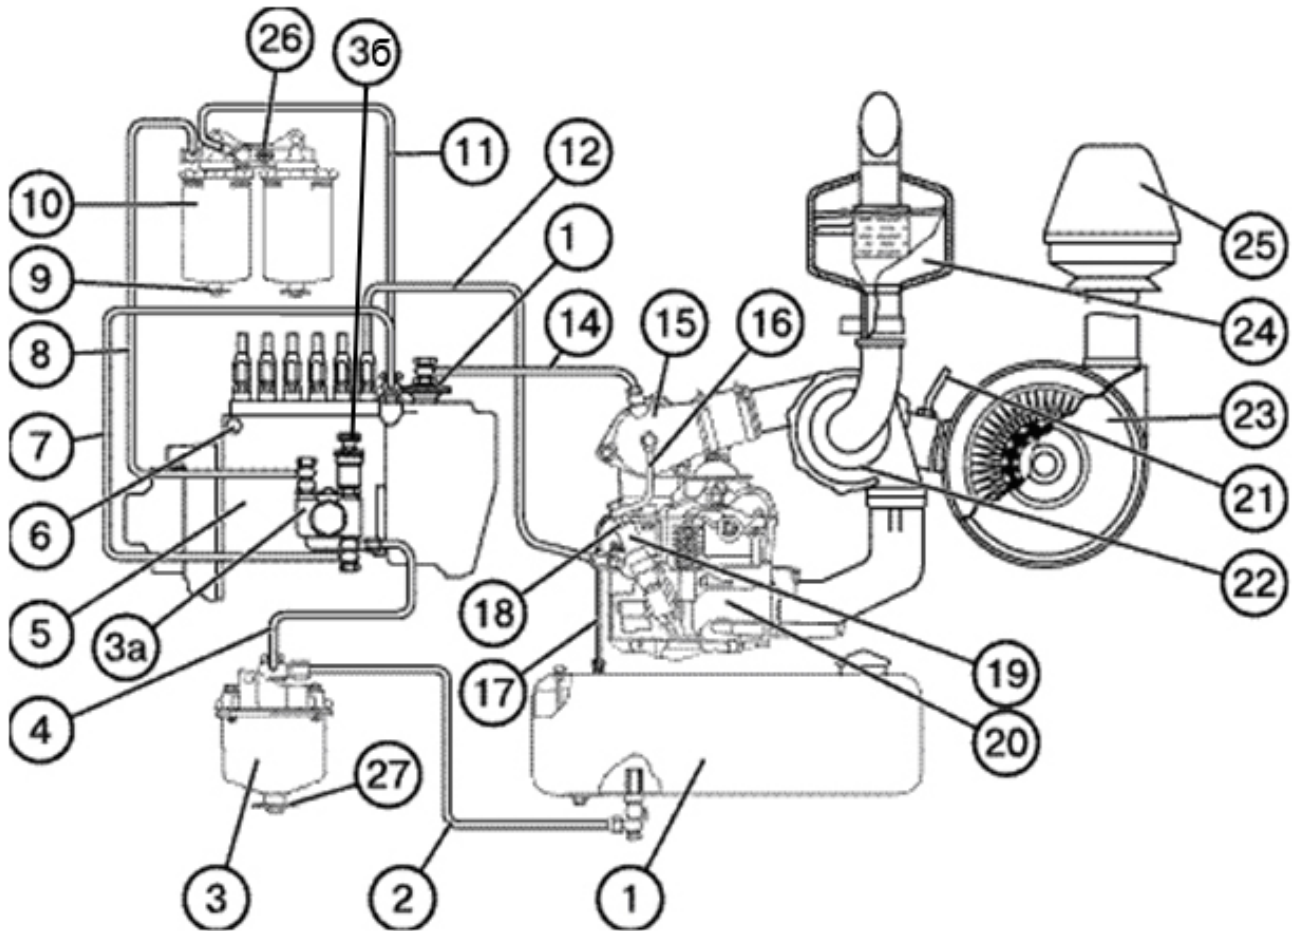

Fig. E-3. Fuel feed circuit diagram:
The engine **feed circuit** (refer to Fig. E-3) consists of an air-cleaner, air-delivery conduit, induction and exhaust manifolds, turbocharger, exhaust silencer, fuel tank, coarse and fine fuel filters, fuel pump, injectors, as well as fuel-injection and delivery pipelines.
The **fine fuel filter** (refer to Fig. E-3) has a replaceable filter element which is installed in the filter housing.
To bleed air from the diesel-engine feed circuit, the filter housing is provided with a plug (26), refer to Fig. E-3.
Fuel injection into the cylinders is achieved by injectors (19) (refer to Fig. E-3) (ФДМ-22), closed-type, with five-bore nozzles.
The diesel fuel injection pump (5) (refer to Fig. E-3) is an in-line type six-plunger member with a pneumatic anti-smoking adjuster.
Fuel is to be cleaned from mechanical impurities by a **coarse fuel filter** (3) (refer to Fig. E-3) which includes a screening element. Sludge is drained from the filter through a drainage plug (27) located in the bottom part of the cup housing.
The **fuel-lift pump** (3a) (refer to Fig. E-3) is mounted on the fuel injection pump body and actuated by the camshaft eccentric.